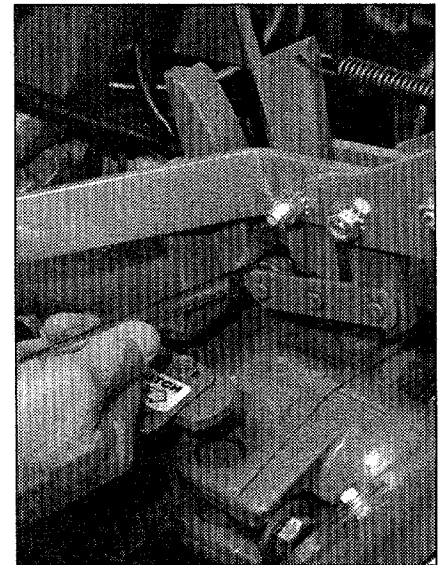

Figure 5-13: Insert slotted end of belt adjustment tool between roller and bracket, with the flat side of the slotted end facing the roller.
- Without moving the clutch roller, try inserting the  $1/4$ "-thick, slotted end of the belt adjustment tool in between the roller and the upright bracket. (The flat edge of the tool must be facing the roller.) Refer to Figure 5-13.